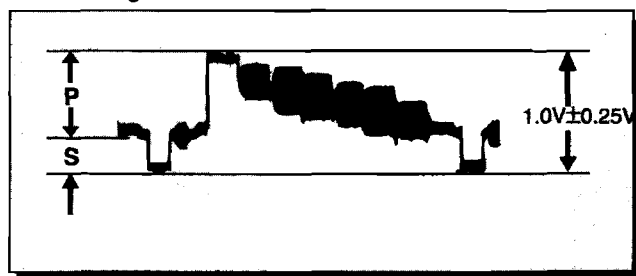

Figure 31. TP12 Waveform
1. Adjust L2109 (on S-Board) to measure 2.4V \pm 0.1V on the DVM. Confirm that the scope reading is within 1.0 \pm 0.25V_{P-P} from sync tip to white level. See Figure 31